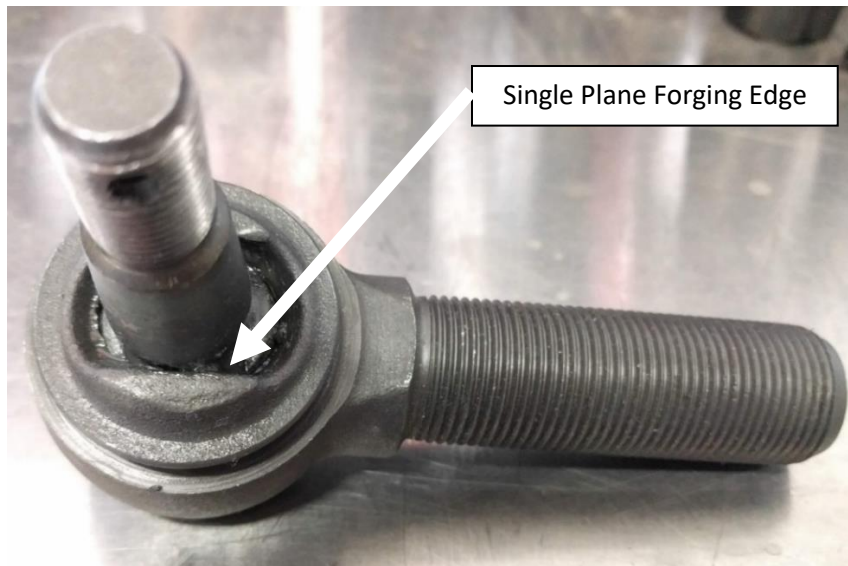
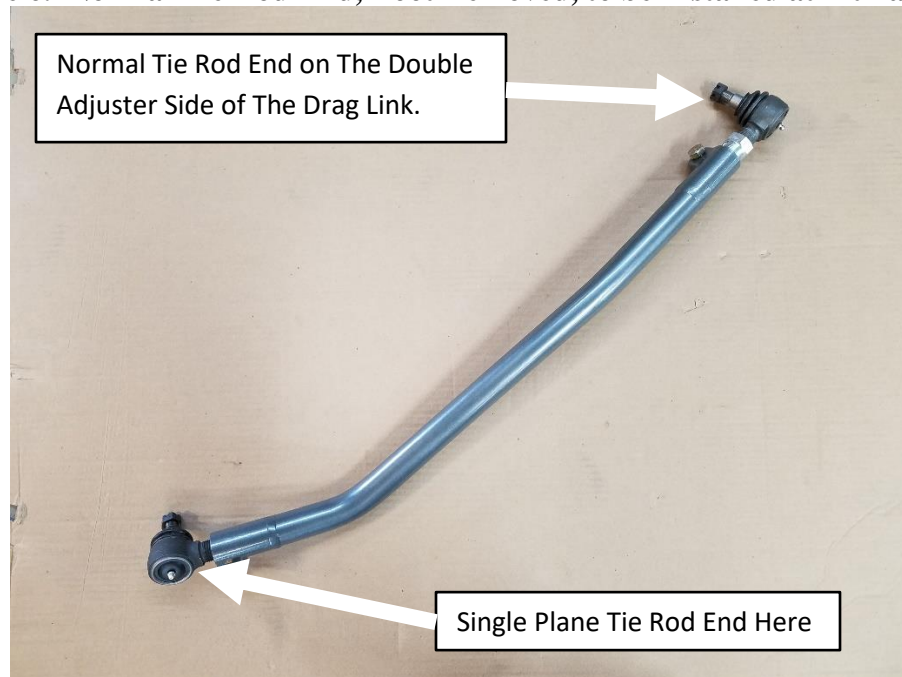

Figure 5. Single Plane Tie Rod End, Boot Removed, to be Installed at Tie Rod
Figure 7. Tie Rod End Locations
11. Verify that the tie rod ends are installed on the correct sides of the drag link. Remove the boots and make sure the Single Plane tie rod end is at the end of the drag link that installs in the Tie Rod (non double-adjuster side). The regular tie rod end should be on the pitman arm side with the double adjuster. See **Figures 5 and 6** for the difference between the single plane tie rod end and the normal tie rod end. See **Figure 7** for their location on the drag link.